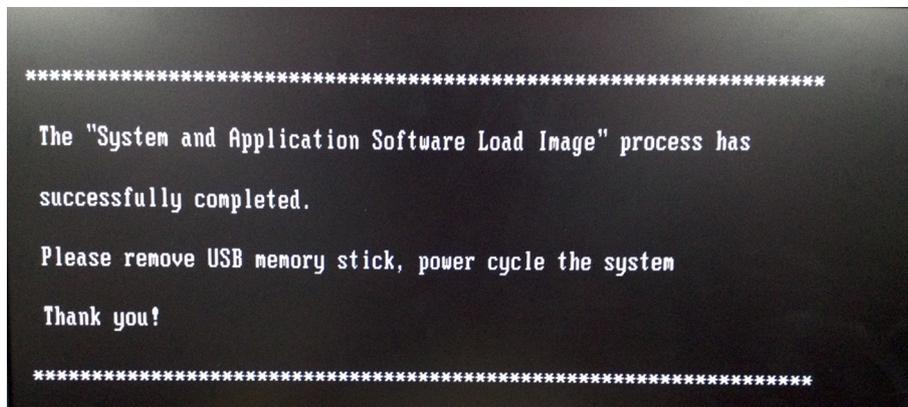

Figure 8-19 System upgrade complete
9.) System updating finished, refer to Figure 8-19 on page 8-9 .